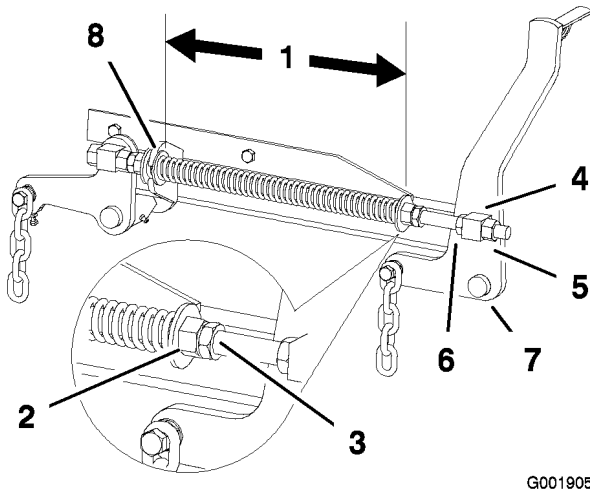

Figure 74
2. Check the distance between the two large washers, it needs to be 11-1/2 inches (29.2 cm) (Figure 74).
3. Adjust this distance, by loosening the spring jam nut and turning the nut in front of each spring (Figure 74). Turning the nut clockwise will shorten the spring; counter-clockwise will lengthen the spring.
4. Lock the nut into position by tightening the spring jam nut (Figure 74).